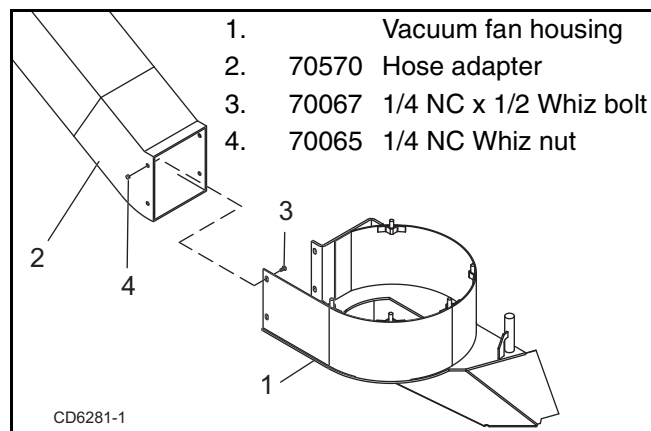

Figure 2. Hose Adapter Installation
1. Attach hose adapter (2) to vacuum housing (1) using six whiz bolts (3) and whiz nuts (4).
NOTE: To prevent grass buildup inside the adapter, install bolts with nuts (4) on the outside as shown in Figure 2.